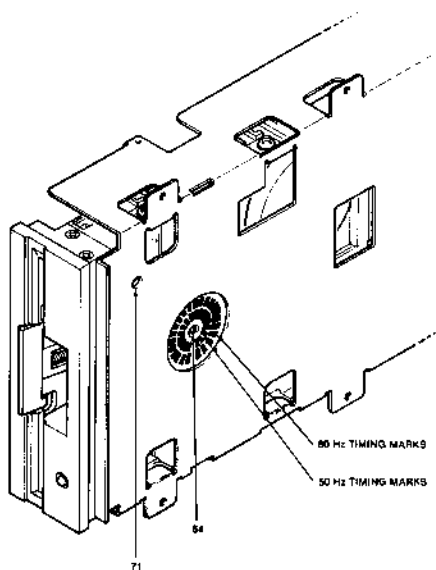

Fig. 3-2. Disk speed adjustment, Models 1540 and 1541.
Before starting this step-by-step procedure, a few words about an alignment reference. Models 1540 and 1541, equipped with an Alps drive, have a timing disk adhered to the flywheel (see Fig. 3-2, Item 64). Under a fluorescent light, the timing marks on the timing disk appear to stop when the disk is rotating at the correct speed. A battery-operated fluorescent lamp will not work as a reference because the lamp must be powered by the ac line. If a fluorescent lamp is not available in your work area, you may use your TV or monitor. To use the TV/monitor as a reference, change the screen color to white using the following command:
3. Prop the disk drive on its left-hand side as shown in Fig. 3-2. The left-hand edge may be propped up with a book or magazine.
11. Adjust VR1 (Item 71, see Fig. 3-2 for Models 1540 and 1541 or Fig. 3-3 for Model 1542) until the timing marks stop or the frequency counter displays 367 Hz, whichever reference is applicable.